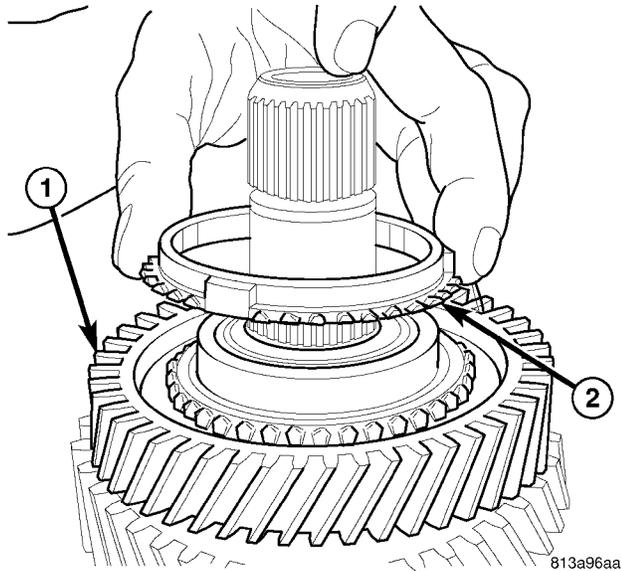

Fig. 74 REVERSE SYNCHRONIZER
(18) Install reverse gear (1) (Fig. 74) synchronizer friction ring (2).